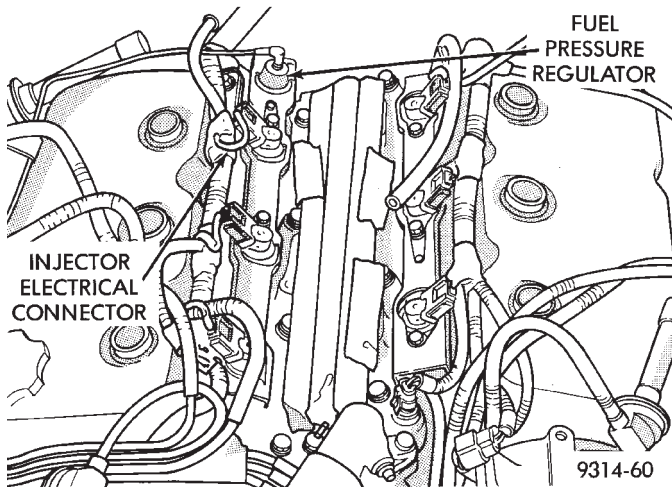

Fig. 24 Fuel Pressure Regulator
(2) Remove electrical connector from injectors.
(3) Remove the vacuum tube from the fuel pressure regulator (Fig. 24).